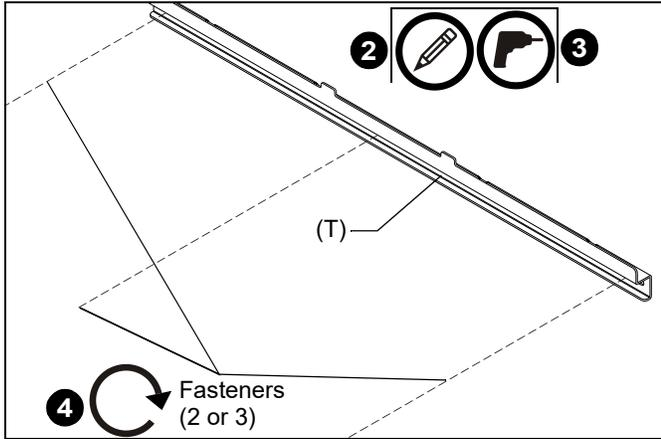

Figure 6
1. Determine location of studs behind drywall. (See Figure 6)
2. Measure and mark the appropriate distance below the projector mount wall bracket (U) according to the measurements listed in Table 2 and referencing the Installation Template. (See Table 2)
3. Drill one pilot hole (see Table 1 for size) at each location marked in Step 2 (See Figure 6) and follow fastener information (appropriate for wall type) located in Table 1.
4. Fasten screen mounting bracket (T) to wall using fasteners appropriate to wall type (See Table 1). (See Figure 6)